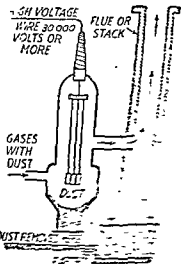

Fig. 27'5—Cottrell precipitator.
(1) Fertile soils are colloidal in nature.
(2) River water is a colloidal suspension of clay in water. This is coagulated by salt water in the sea with the formation of deltas.
(3) Sensitive emulsion deposited on photographic plates, films and papers is colloidal in nature.
(4) Dyeing is essentially an adsorption phenomenon by colloidal particles of the mordant frequently used.
(5) Skins are colloidal in nature and tanning of leather involves swelling and subsequent precipitation of their colloidal particles.
(6) Manufacture of soap involves colloidal changes. Cleansing action of soap is explained on the basis that soap solution is colloidal in nature. It emulsifies greases and adsorbs the dirt particles and thus washes them away.
(7) Colloidal medicines have proved to be more effective as they are easily absorbed by the system.
(8) Nuisance of smoke in big industrial areas is removed by precipitation of smoke (colloidal solution of carbon particles in air) in a Cottrell precipitator shown in Fig. 27'5
(9) The purification of water